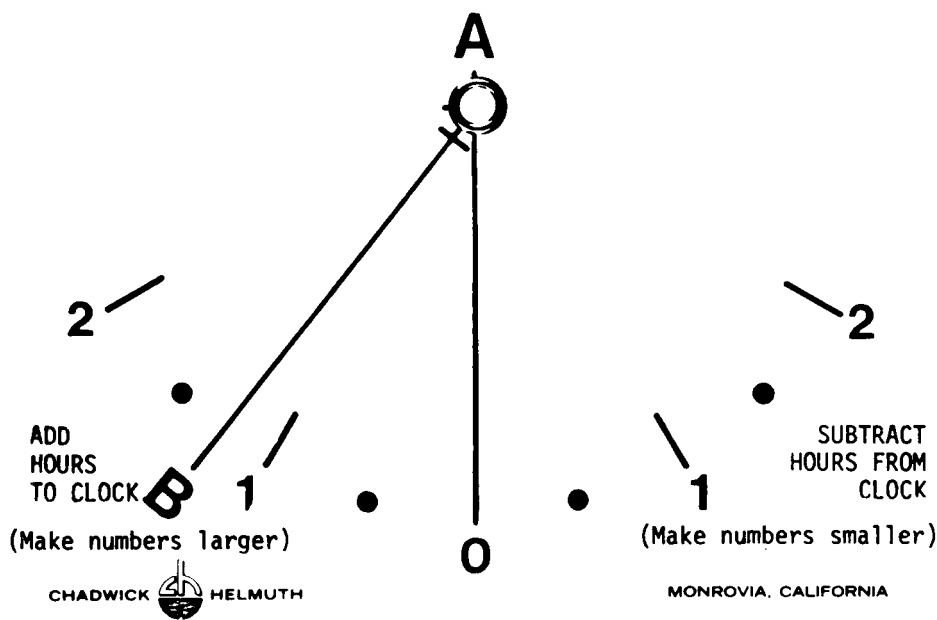

Figure 2-9. Balance Chart Angle Corrector
c. *Clock Corrector.* To use the Balance Chart Clock Angle Corrector, refer to the instructions contained on the envelope, figure 2-8, and the Balance Chart Clock Angle Corrector, figure 2-9. Detailed instructions are covered in the following balancing problem.